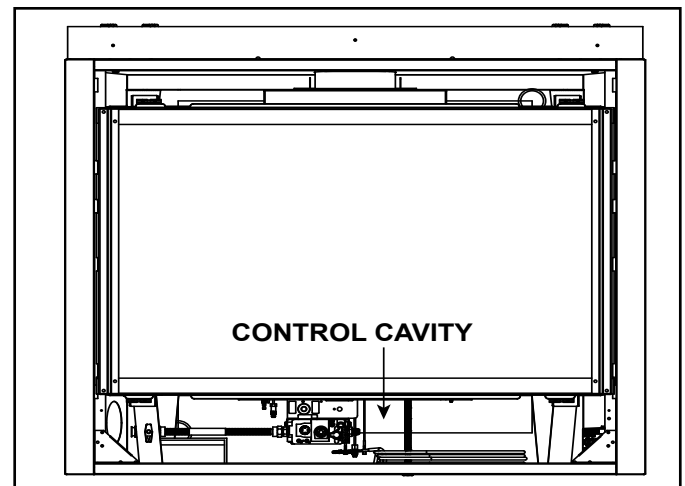

Figure 3.5 Control Cavity Location - Generic Fireplace Show
The IntelliFire Touch™ intermittent pilot ignition system comes with a battery backup system that enables the system to operate in a power outage. The system offers seamless transition from household AC power to battery backup. A factory-installed battery pack is located in the control cavity of the appliance. See Figure 3.5. Battery longevity and performance will be affected by long term exposure to the service temperatures of this appliance.
1. Access the control cavity of the appliance. See Figure 3.5 for location. The decorative barrier front and front refractory may need to be removed.
2. Locate the battery tray and insert four AA cell batteries. Battery polarity must be correct or module damage will occur. See Figure 3.5. A complete wiring diagram is included in the Electrical section of the appliance Installation Manual.